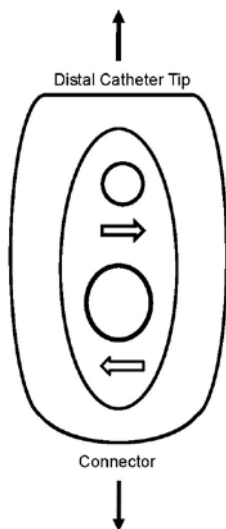

Figure 1: Reprocessed 2515 NAV and 2515 NAV eco Variable EP Catheter
To reduce the diameter of the loop, rotate the handle clockwise with the catheter pointing away from you. To increase the loop diameter rotate the handle counter-clockwise (see Figure 1). The maximum diameter of 25mm is attained when the handle is fully rotated counter-clockwise. Likewise, when the handle is fully rotated clockwise, the minimum attained diameter is 15mm. To deflect the tip of the catheter push forward on the catheter thumbknob. To straighten the tip, pull the thumbknob back.
- Inspect the catheter and packaging before opening. The contents of the package are sterile unless the package is opened or damaged. If the package is damaged or if it was opened and the catheter not used, do not use the catheter. Return the catheter and packaging to Stryker Sustainability Solutions for resterilization by ethylene oxide (EO) gas. Do not attempt to resterilize.
- Adjust the loop diameter with the handle grip. Contract the loop by rotating the handle to the right, relax/expand the loop by rotating the handle to the left. (see Figure 1).